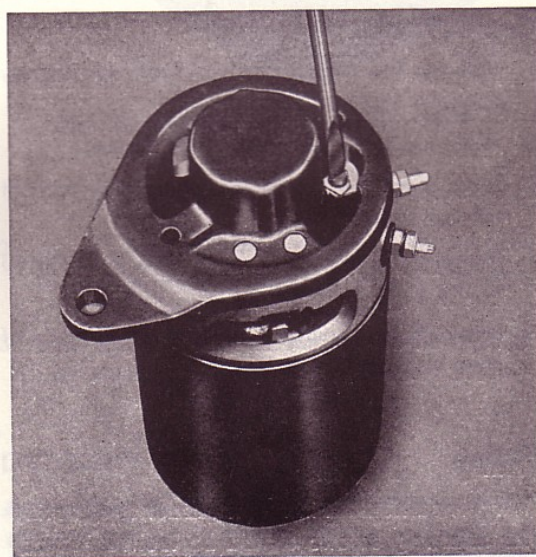

Fig. 23. Removing the connecting bar
3. Remove the screws which hold the dynamo housing and end shield together after having first disconnected the connecting bar as shown in Fig. 23.
7. Connect the bar for the main current to the positive brush, see Fig. 23.